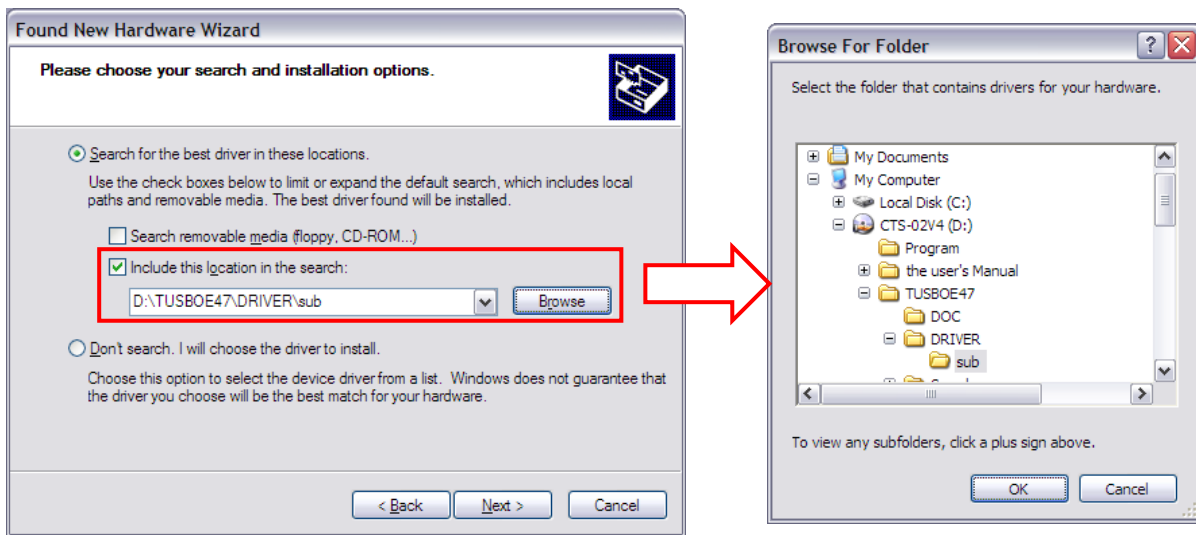

Fig.4-4 Screen when Selected [Install from a list or specific location (Advanced)]
- Assign device driver to [TUSBOE47]→ [DRIVER]→ [sub] in the screen below (See Fig.4-4).